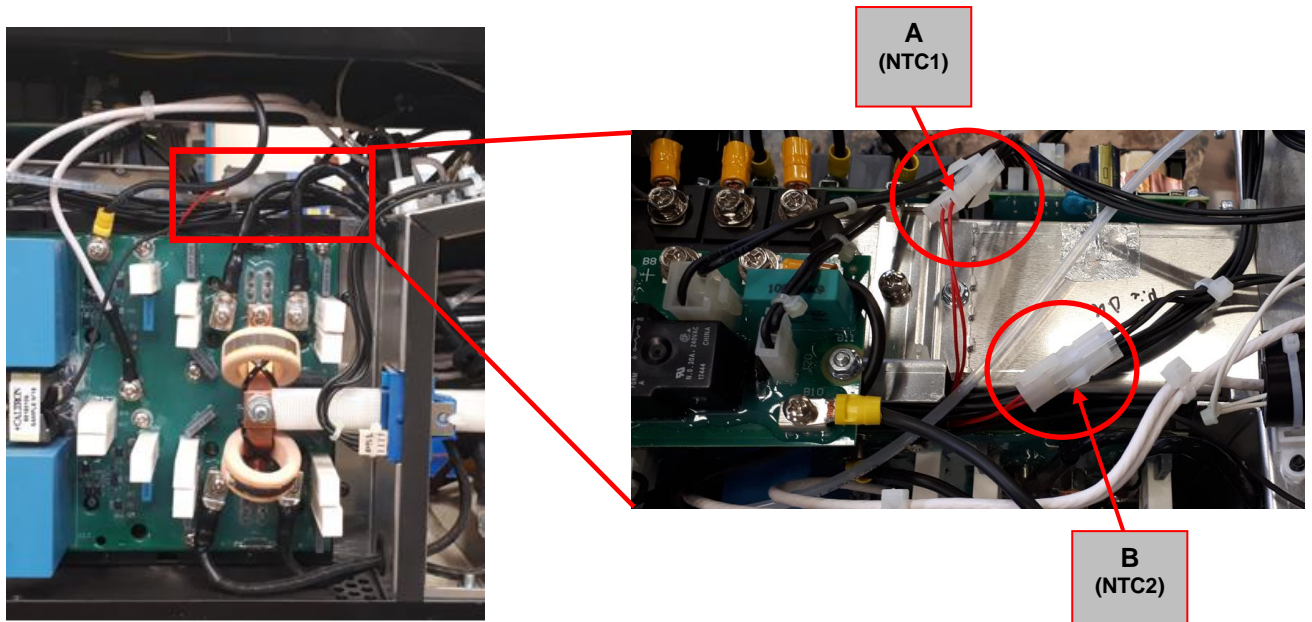

Figure 7 – NTC Thermal sensors connectors location
3. Locate the male and female connector of the two NTC (NTC1 protects the Inverter Power components and NTC2 the output diodes). See **Figure 7**.